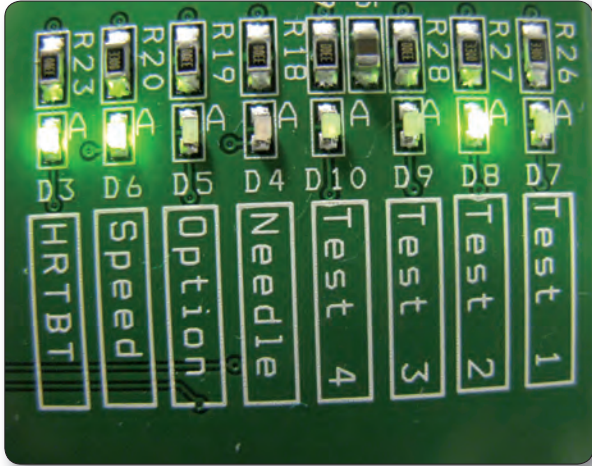

Figure 13.2
b. With the C-Pod open and all cables attached, power up the machine and verify that the green LED D4 “Needle” (Figure 13.2) turns on and off to indicate Needle Up and Down positions as you rotate the hand wheel (D4 works the same way as the “Needle” LED that is mounted to the internal Needle/Speed Sensor board) .